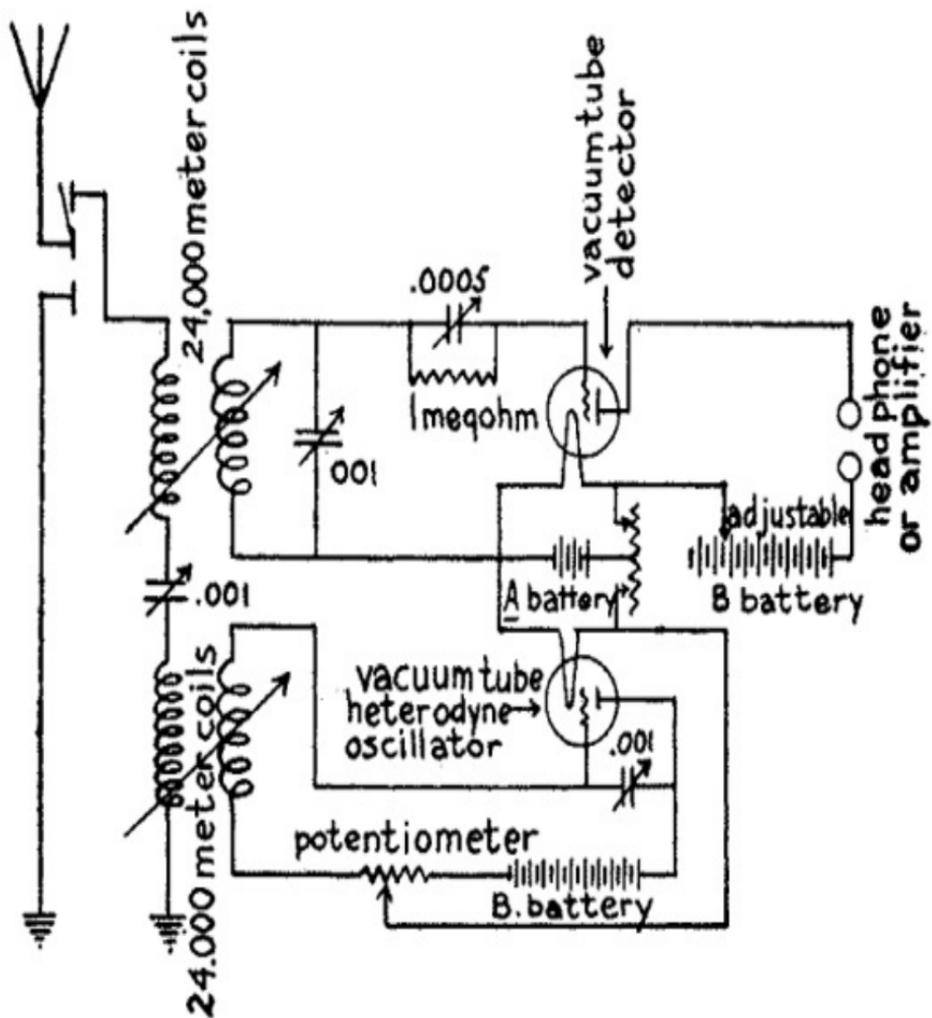

FIG. 61.—Wiring Diagram of Long Wave Separate Heterodyne Receiving Set.
*The Parts and Connections of a Separate Heterodyne Long Wave Receiving Set.*--The parts required for this long wave receiving set are: (1) four honeycomb or other good *compact inductance* coils of the longest wave length that you want to receive; (2) three *.001 mfd. variable condensers*; (3) one *.0005 mfd. variable condenser*; (4) one *1 megohm grid leak resistance*; (5) one *vacuum tube detector*; (6) one *A battery*; (7) two *rheostats*; (8) two *B batteries*, one of which is supplied with taps; (9) one *potentiometer*; (10) one *vacuum tube amplifier*, for setting up the heterodyne oscillations; (11) a pair of *headphones* and (12) all of the parts for a *two-step amplifier* as detailed in Chapter IX, that is if you are going to use amplifiers. The connections are shown in *Fig. 61*.